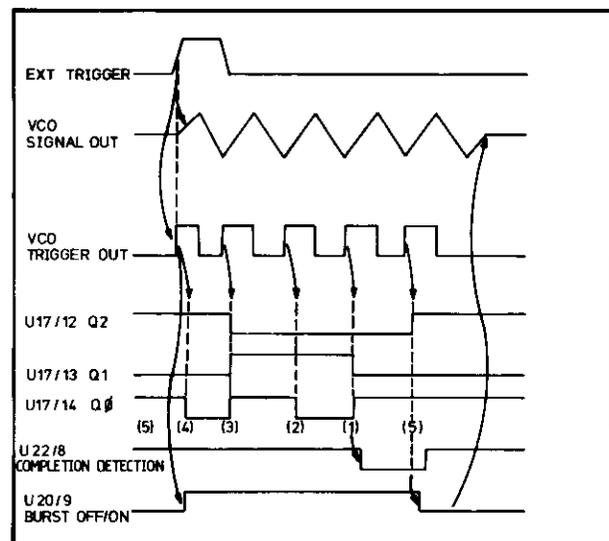

Figure 8-6-2. Burst Timing Diagram (Burst Number = 5)
Figure 8-6-2 should be referred to as necessary to aid understanding of the descriptions.
The One Detector circuit output, U22C pin 8, is changed from its normal high to a low level when the stored burst count reaches one (001). Until this point, U22C pin 8 at high has maintain the BURST ON/OFF signal at high (Burst on). At the receipt of the next clock pulse, which initiales the last burst cycle, the level at U22C 'D' is transferred to the Q output so disabling burst via the VCO BURST ON input. This is illustrated by Figure 8-6-2.